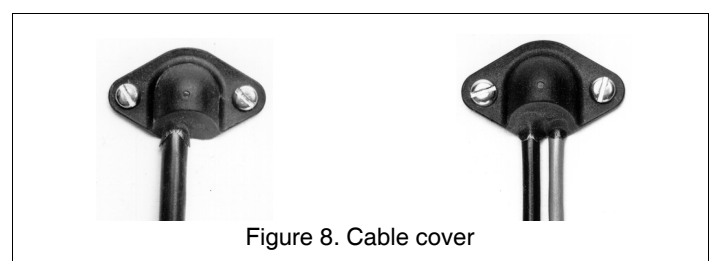

Figure 8. Cable cover
5. If a hole has been drilled through the transom, open the appropriate slot(s) in the cable cover (see Figure 8). The cable cover can accommodate two cables when there are separate